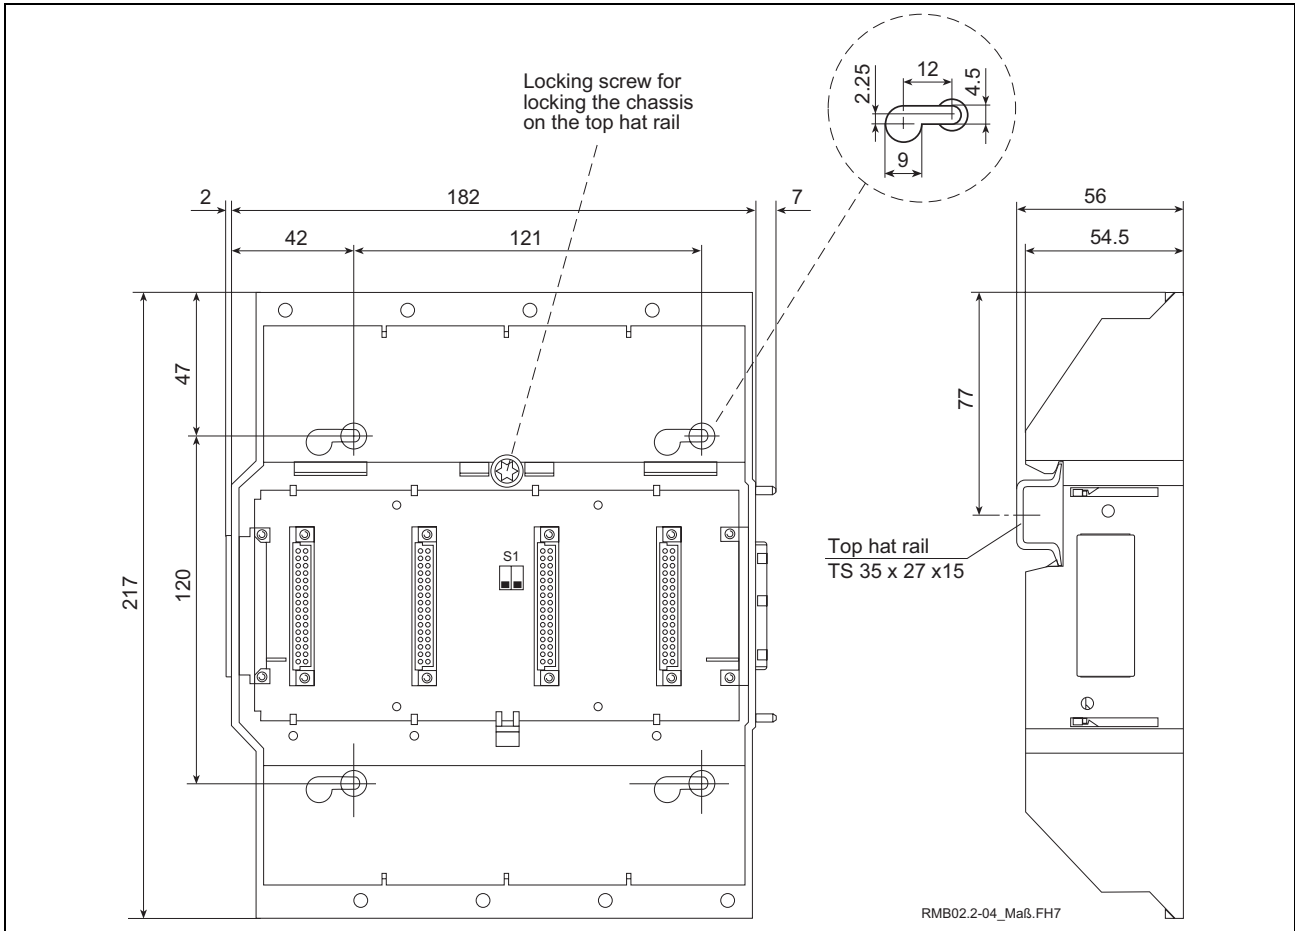

Fig. 3-5: RMB02.2-04 module carrier
Install the RMB02.2-02 and RMB02.2-04 module carriers by engaging them on a DIN TS 35x27x15 top hat rail and by fixing them by means of a locking screw. It is also possible to mount the module carriers directly on the mounting plate in the control cabinet through the holes provided in the module carrier (see Fig. 3-5: RMB02.2-04 module carrier).
**Note:** Before startup, the locking screws of the module carriers must be tightened securely, so that the module carriers are prevented from moving sideways and, thus, the connectors between the module carriers from loosening (for the position of the screws see Fig. 3-5: RMB02.2-04)! In addition, the modules must be screwed to the module carrier. Connectors and modules may **not** be fitted or removed under tension!